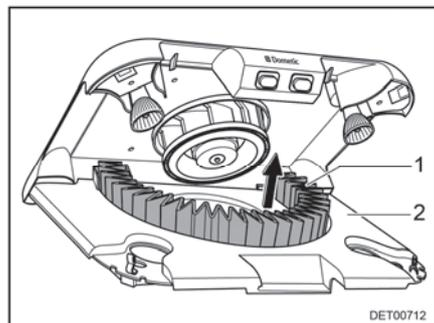

Fig. 161 Change the active carbon filter
- Remove the active carbon filter (Fig. 161,1) of the holder in upward direction.
- Swivel the filter holder (Fig. 161,2) upwards until it engages.